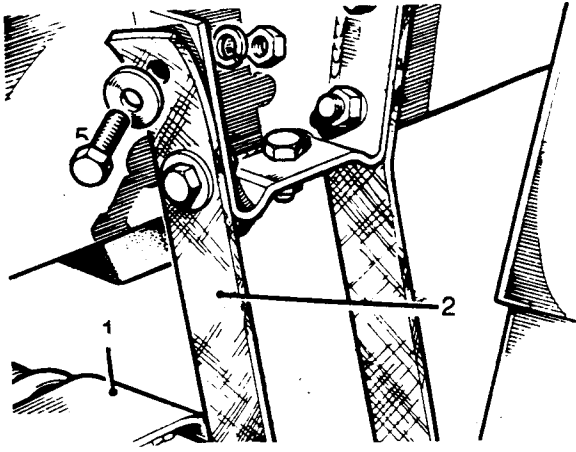

Fig J1.14
- (5) Refer to Fig J1.14. Reconnect the axle check straps (2). The jack may now be removed.